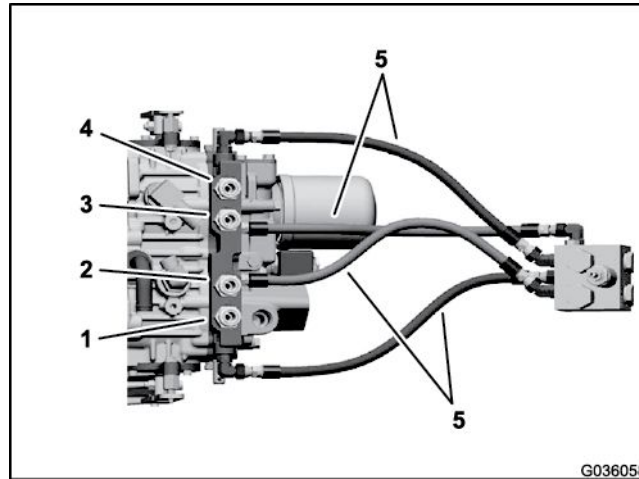

Figure 61
3. Clean the area around the traction circuit hoses on the top of the transmission (Figure 61). Determine which piston pump circuit is to be filtered.
4. Disconnect the hydraulic hose from the transmission pump inlet fitting for the piston pump to be filtered (Figure 61).
6. Disconnect the balancing hose from the transmission fitting closest to the transmission pump inlet for the pump to be filtered (Figure 61). Install a steel cap on the fitting and steel plug in the balancing hose.